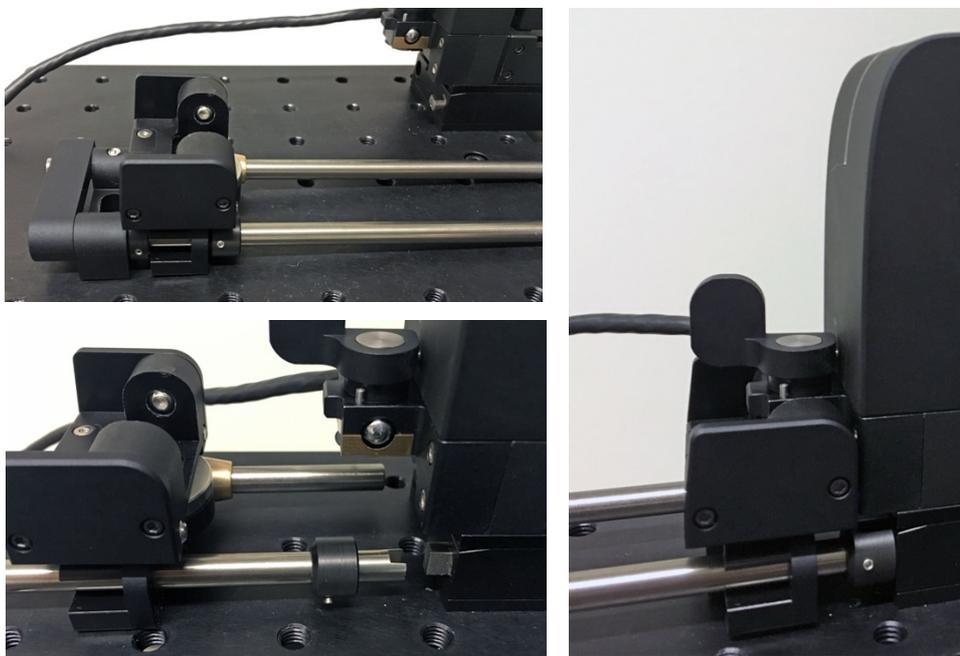

Figure 3.1. Electrode exchange module installation
1. Ensure that manipulator is locked to docking base and pick-up module locking lever is in unlocked position (=lever pointing back). Fig. 3.1., left top shows module as shipped. Please loosen set screw in collar that is in front of the pick-up unit and ensure that locking lever at the back is in lock position as in the picture. Slide the round ended rod to hole in the docking base and slotted rod to its counterpart at the docking base. Ensure that slotted part is pushed all the way in to the counterpart and then slide collar to cover the connection so that it is pushed all the way against the docking base. Ensure that set screw is pointing towards you as in the picture and tighten it. Note that locking collar should be oriented so that the wedged end of it is facing back.